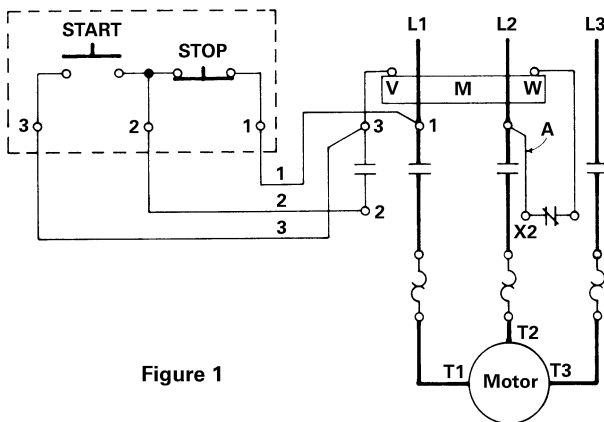

Figure 1
3. For the push button 3-wire control, make electrical connections as shown in figure 1.